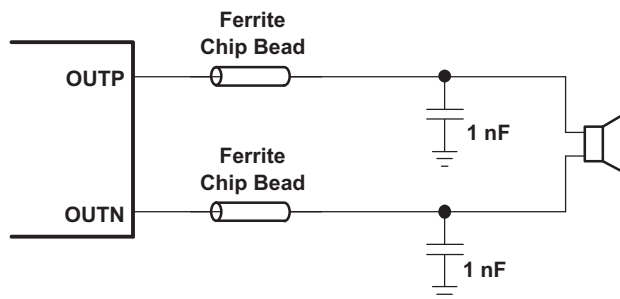

图 22. Typical Ferrite Chip Bead Filter (Chip Bead Example: NFZ2MSM series from Murata)
- Output filter—The ferrite EMI filter (图 22) should be placed as close to the output pins as possible for the best EMI performance. The capacitors used in the ferrite should be grounded to power ground.